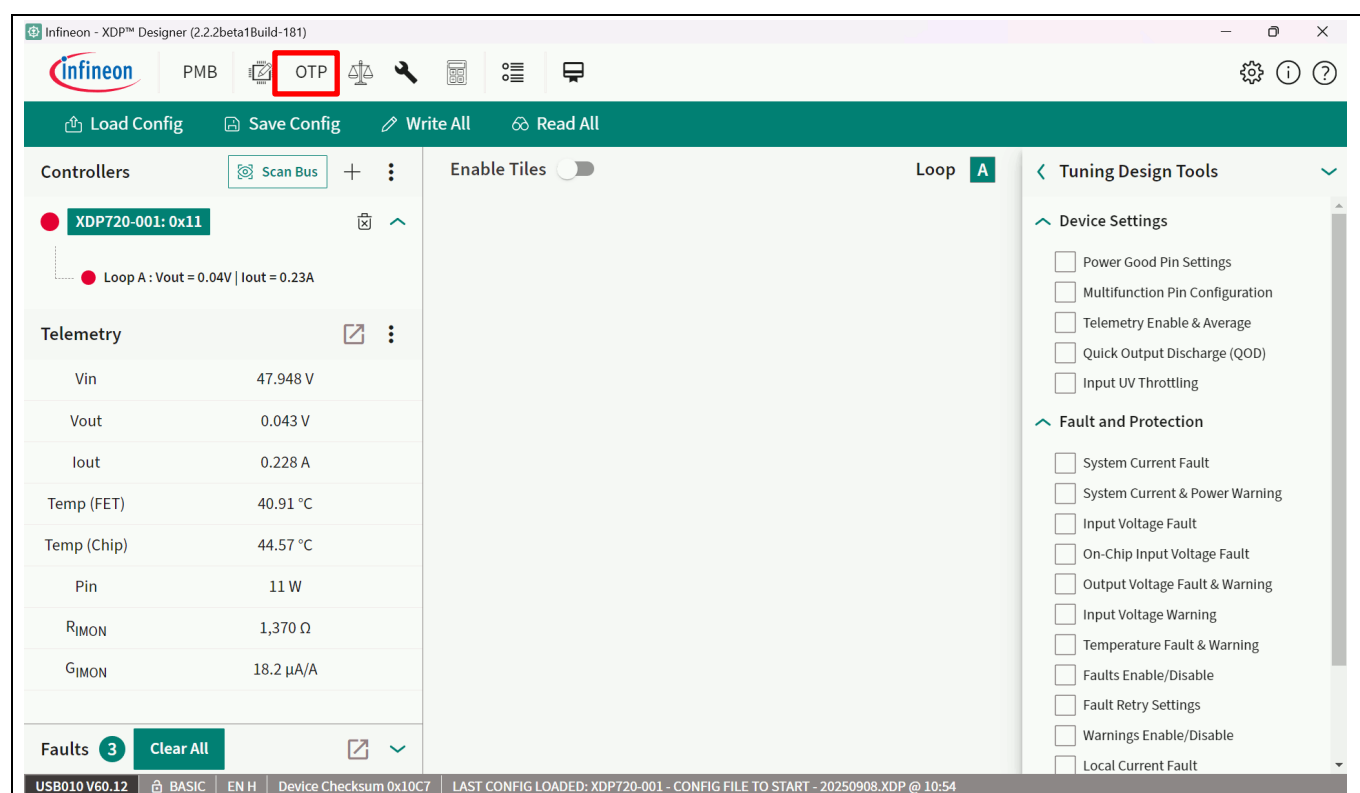

Figure 40 Programming tab
2. Click the button highlighted as shown in Figure 40